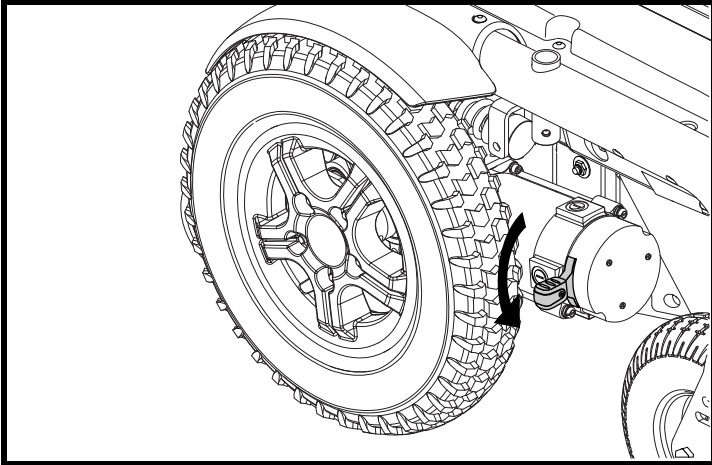

Figure 8. Freewheel Mode (Drive Disengaged) - Hammer Motor
For your convenience, your power chair is equipped with two manual freewheel levers mounted on the motors. Depending on which motors your power chair is equipped with, you will have one of two possible freewheel levers. See figures 8, 9, 10, or 11. These levers allow you to disengage the drive motors and maneuver the chair manually. You can manually push the power chair by the seatback or push the power base itself if the seat is removed.
1. Push the manual freewheel lever down for freewheel mode (drive disengaged). See figure 8 or 10.